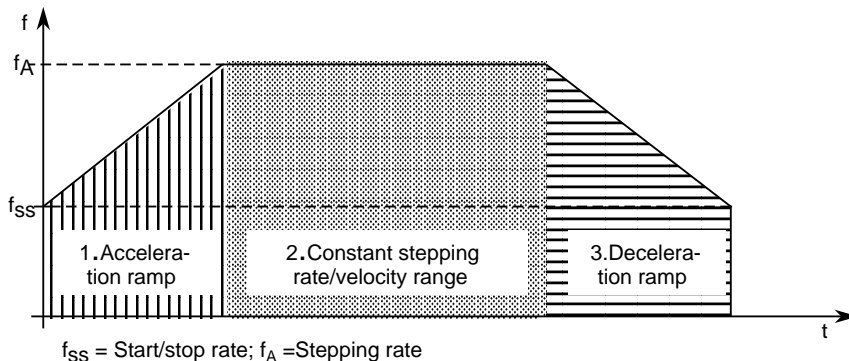

Figure 2-1. Velocity Profile of the IP 267
Stepper motors can be driven by the IP 267 from standstill with the start/stop rate f_{SS} without losing steps or coming to a standstill. The value for f_{SS} must be found specially for each plant (6.6.3). During the deceleration phase, the frequency is continuously reduced from the stepping rate f_A to the start/stop rate f_{SS} . The IP 267 cannot generate control pulses lower than the start/stop rate (Figure 2-1.).
The number of the pulses output in the acceleration range is acquired by an internal counter and used as a position setting for the deceleration range. The stepping rate is modified by the same amount in the deceleration range as in the acceleration range. This generates a symmetrical velocity profile with equal acceleration and deceleration curves (Figure 2-1.). This profile is also maintained when the traversing motion is interrupted, e.g. by limit switches (I+, I -), the STOP switch or reference point switch. Only by the emergency limit switch (PD) is a traversing motion immediately interrupted, i.e. without deceleration ramp (3.4).
2.2.4 Time Interval for Stepping Rate Increase and Rate Decrease (TI)